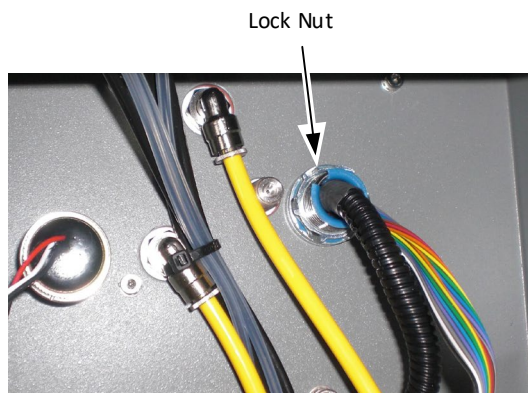

Fig. 6.7. EPC Cable Lock Nut
9. On the wall inside the left side of the oven, remove the lock nut on the pipe nipple which retains the EPC Panel cables (see Figure 6.7).